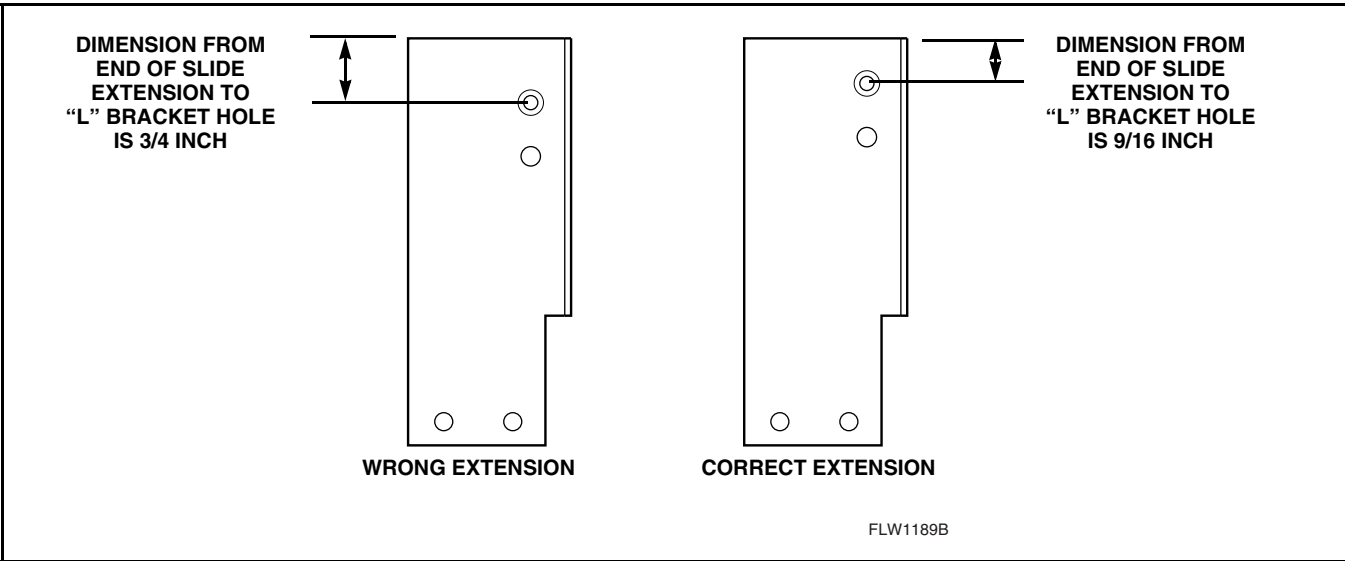

Figure 20
- a. If coin slide fails to initiate cycle start, review coin slide extension dimensions in *Figure 20*. It is possible that the wrong hole placement for locating the clutch activation arm is causing the “No Start” condition.
- b. If hole dimensions vary from *Figure 20*, replace with 685593 coin slide extension.